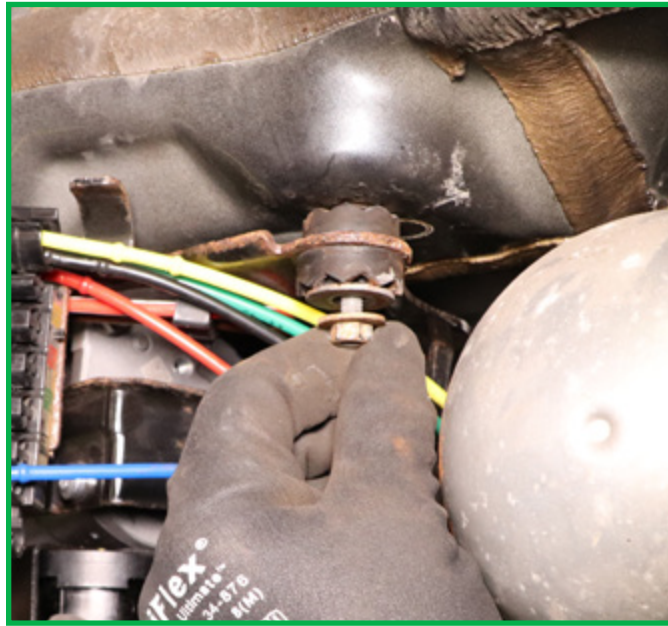

FIGURE 14
8. Remove the mounting bolts that secure the compressor bracket assembly to the vehicle. (Figure 14)